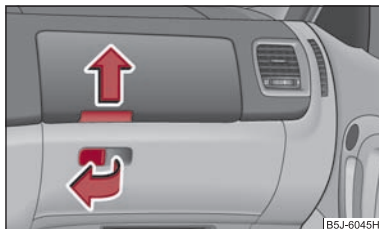

Fig. 79 Dash panel: Storage compartments on the front passenger side
- Pull the handle of the lid in direction of arrow ⇒ fig. 79 and fold it open.